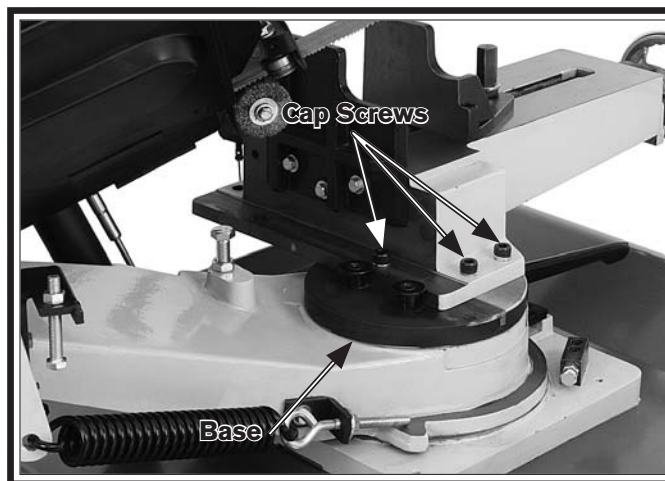

Figure 30. Securing vise.
5. Slide the vise to the right until it stops. Replace the cap screws that were removed in **Step 4** into the holes indicated in **Figure 30**. If needed, install the work stop on the left side of the vise.